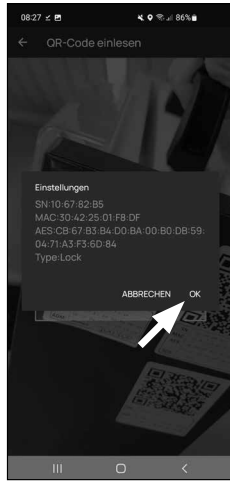

Fig. 5
- 6 A message appears containing data regarding your cylinder; confirm this with "OK" at the bottom right (Fig. 5).